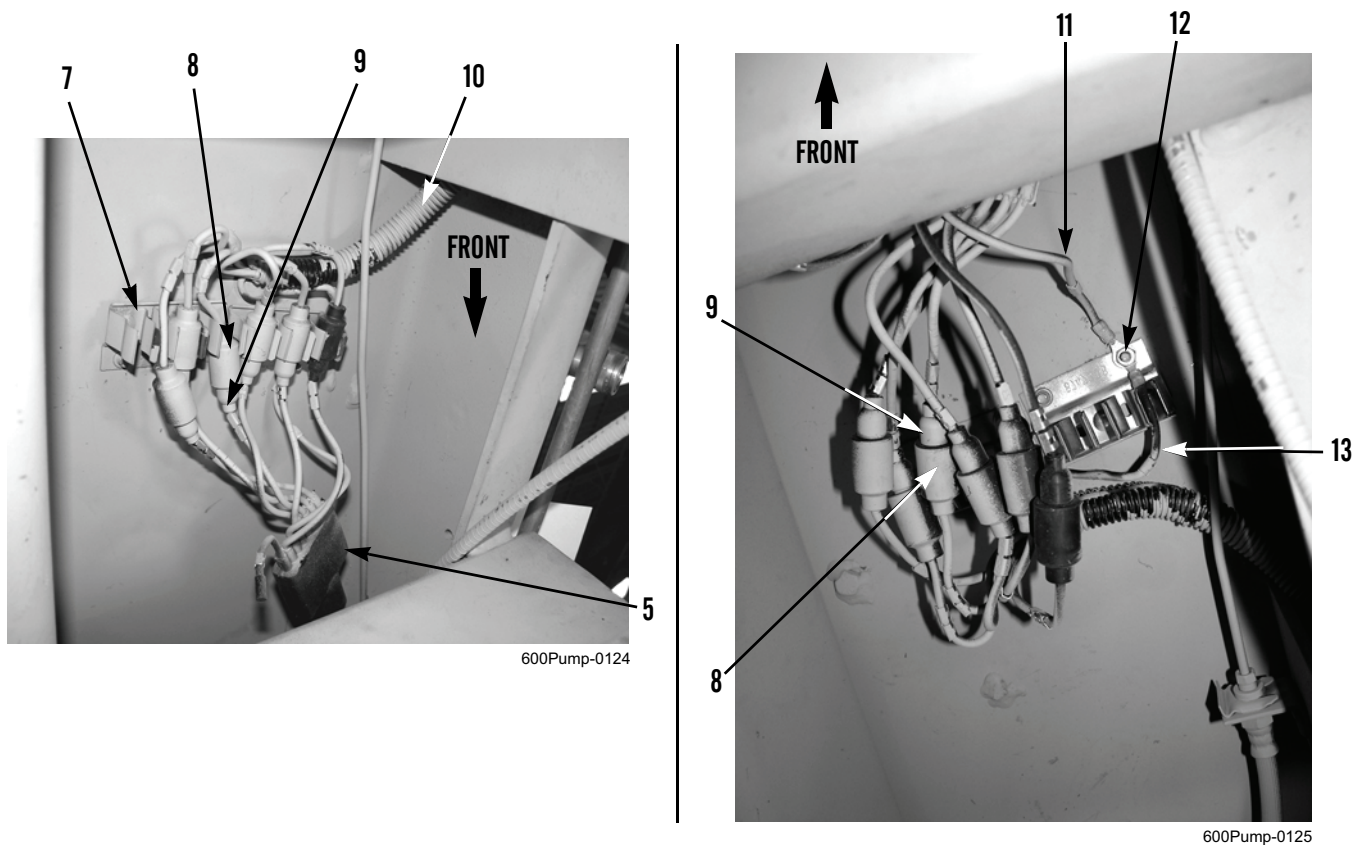

Figure 3. Wiring Harness Junction.
4. Remove intervehicular electrical cable connectors (Figure 3, Item 9) and trailer wiring harness connectors (Figure 3, Item 8) from wiring harness junction (Figure 3, Item 7).
5. Disconnect intervehicular electrical cable connectors (Figure 3, Item 9) from trailer wiring harness connectors (Figure 3, Item 8).
6. Remove nut (Figure 3, Item 12), intervehicular electrical cable ground wire (Figure 3, Item 11), and trailer wiring harness ground wire (Figure 3, Item 13).
7. Remove intervehicular electrical cable (Figure 3, Item 5) from right side of trailer frame.
8. As required, cut tiedown straps and remove protective conduit (Figure 3, Item 10) from around intervehicular electrical cable (Figure 3, Item 5). Discard tiedown straps.
1. As required, wrap protective conduit (Figure 3, Item 10) around intervehicular electrical cable (Figure 3, Item 5) and secure with new tiedown straps.
2. Route intervehicular electrical cable (Figure 3, Item 5) along right side of trailer frame. Ensure intervehicular electrical cable connectors (Figure 3, Item 9) reach wiring harness junction (Figure 3, Item 7).
3. Secure intervehicular electrical cable ground wire (Figure 3, Item 11) and trailer wiring harness ground wire (Figure 3, Item 13) with nut (Figure 3, Item 12).
4. Connect intervehicular electrical cable connectors (Figure 3, Item 9) to trailer wiring harness connectors (Figure 3, Item 8).
5. Install intervehicular electrical cable connectors (Figure 3, Item 9) and trailer wiring harness connectors (Figure 3, Item 8) in wiring harness junction (Figure 3, Item 7).